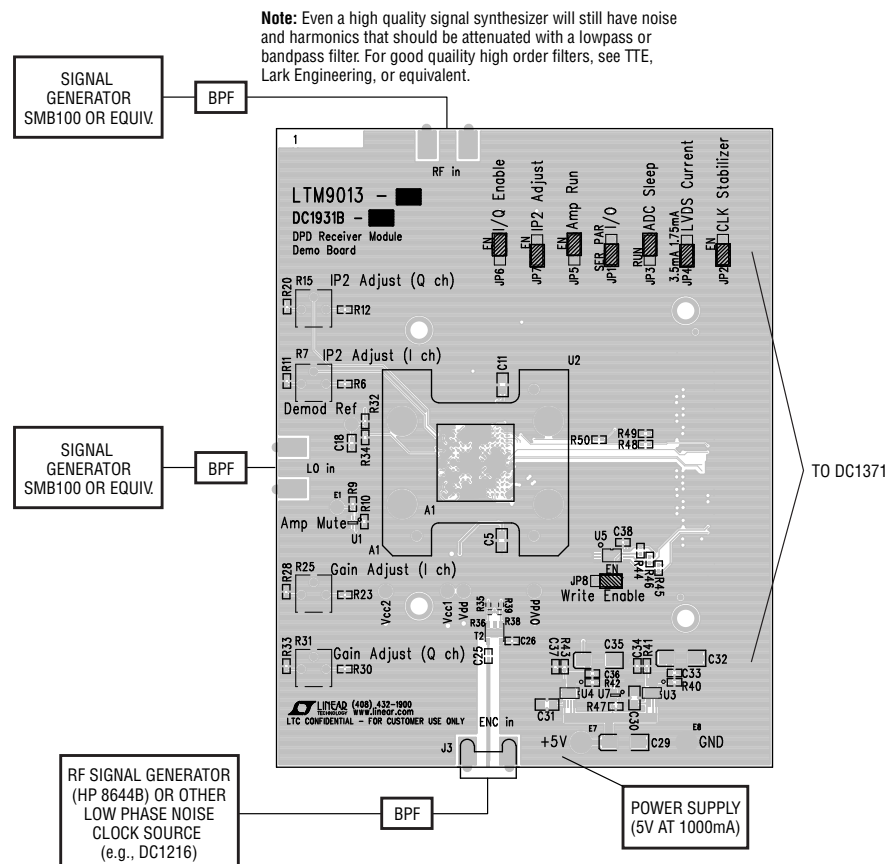

Figure 1. Proper Measurement Equipment Setup
Validating the performance of the LTM9013 is simple with DC1931, and requires only two input sources, a clock source, a computer, and a lab power supply. The DC1931 demonstration circuit board should have the jumper settings as default positions (as per Table 1) which configures the ADC in serial programming mode. In the default configurations, JP1-JP4 should be left in the default locations. This will pull the SPI lines high through weak pull-up resistors so that the SPI commands can be sent from the PC. When JP1 is set to PAR, then jumpers JP2-JP4 can be configured manually. Refer to Figure 1 for proper board evaluation equipment setup and follow the procedure below:
1. Connect the power supply as shown in Figure 1. There are onboard low noise voltage regulators that provide the three supply voltages for the LTM9013. The entire board and all components share a common ground. The power supply should still be a low noise lab power supply capable of supplying at least 1A.